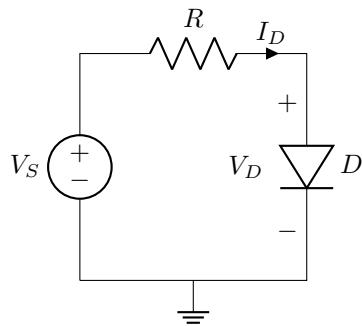

Figure 1: Forward-bias pn junction I-V characteristic measurement circuit.
In this portion of the experiment, you will measure the forward-bias current-voltage characteristics of a silicon diode. Begin by constructing the circuit shown in Figure 1 on your breadboard using the small-signal silicon diode and the $1\text{ k}\Omega$ resistor. Ensure that the diode is oriented correctly with the anode connected toward the positive supply terminal and the cathode toward ground. Connect one DMM across the diode terminals to measure the diode voltage V_D directly. To measure the current through the diode I_D , you have two options: either connect the second DMM in series with the circuit (being careful to observe the current measurement limits of your meter), or measure the voltage across the resistor and calculate the current using Ohm's law ($I_D = V_R/R$). The second method is often preferred as it avoids potential issues with meter burden voltage.
2. For the circuit in Figure 1, assume $V_S = 5$ V, $R = 1$ kΩ, and the diode forward voltage is 0.7 V when conducting. Calculate (a) the voltage across the resistor, (b) the current through the diode, and (c) the power dissipated by the diode. Show all calculations.